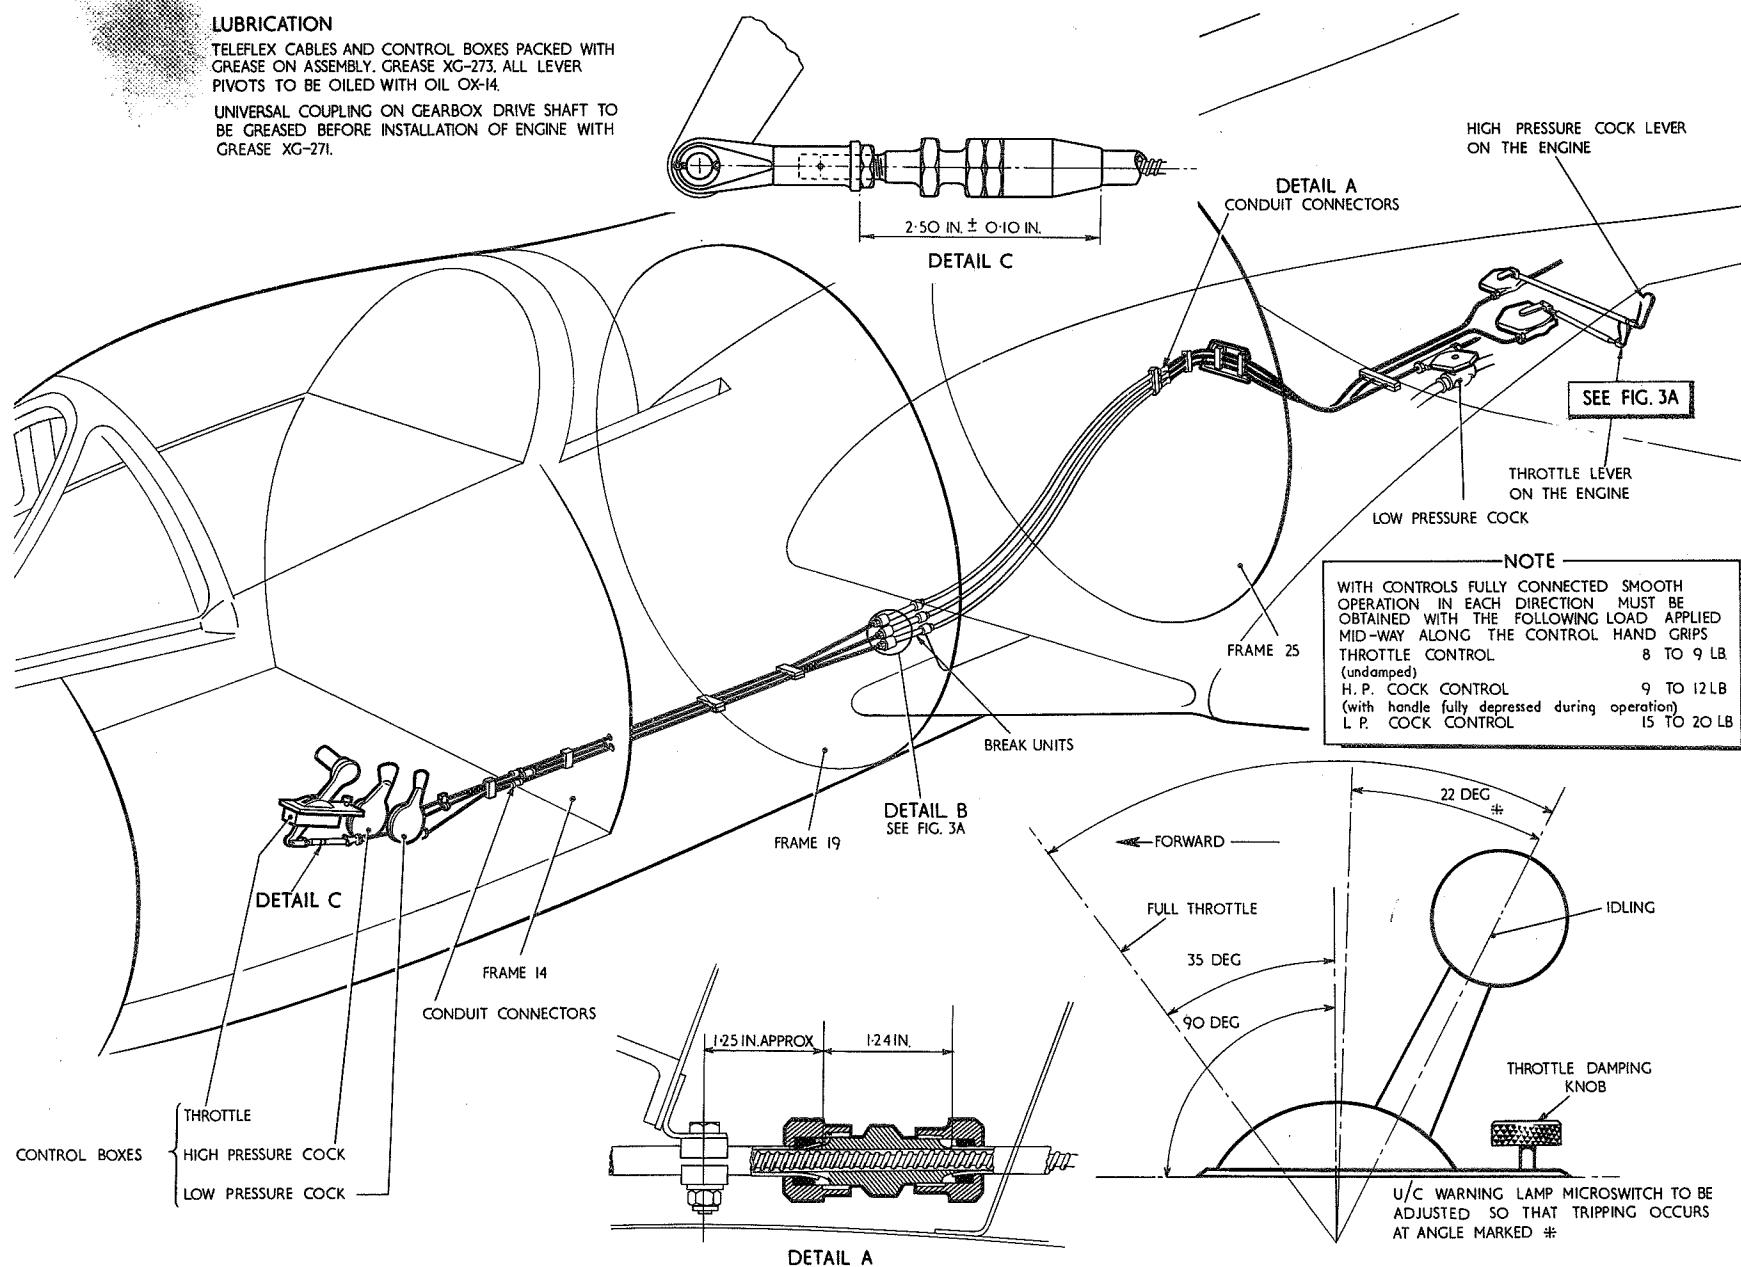

Fig. 3 Engine controls (1)
Engine controls (fig. 3 and 3A)
throttle lever arm when the throttle is fully closed. On completion of the adjustments ensure that all controls are in safety, correctly locked and that they are free from fouling throughout their full range of movement. Lubrication details and control lever settings are given in fig. 3 and 3A.
15. Oil specifications and capacities for the engine and accessories gearbox are listed in the Leading Particulars at the front of this volume. The units should be checked for oil level before flight and topped up as necessary (Sect. 2, Chap. 2). Lubrication of the engine controls and gearbox universal shaft couplings are detailed in fig. 3, additional information on the gearbox drive universal couplings being given in para. 13.